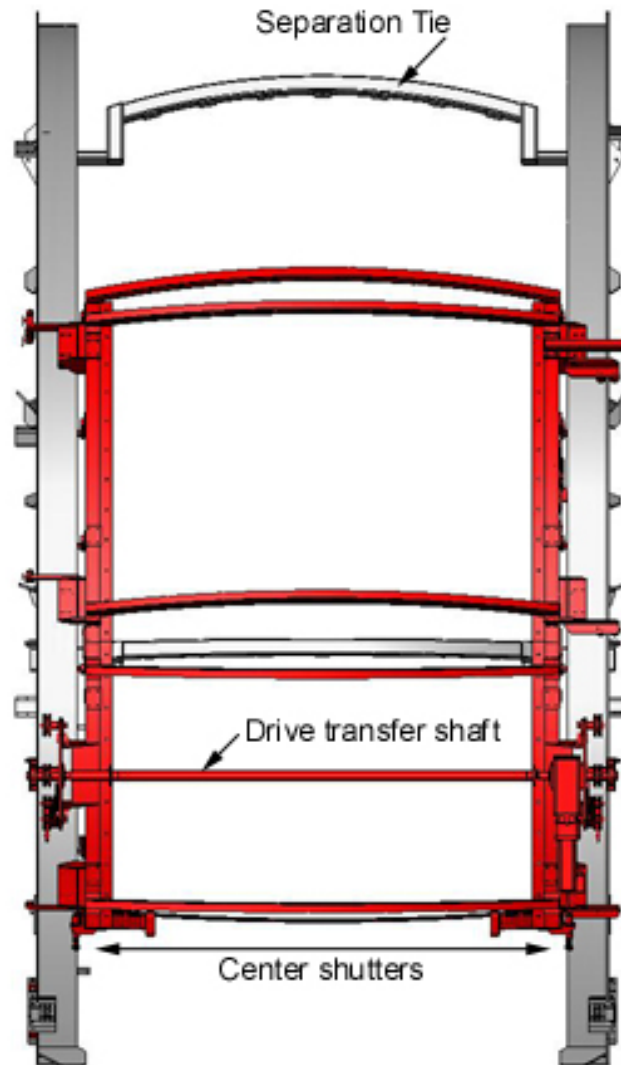

Figure 4.4
- b) Ensure that the shutters are centred with respect to the archbeam- and that the Drive Transfer Shaft is horizontal – see Figure 4.4.